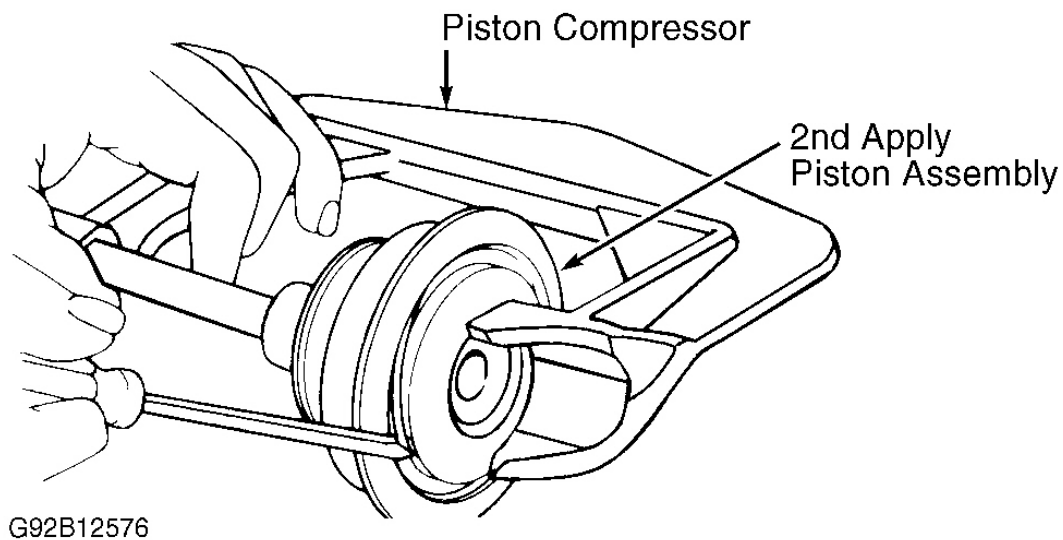

Fig. 17: Compressing 2nd Apply Piston
1. Remove 4th apply piston and return spring. See **Fig. 16**. Remove retainer ring, washer, apply pin spring and 2nd apply piston pin. Install Piston Compressor (J-22269-01) on 2nd apply piston. See **Fig. 17**.